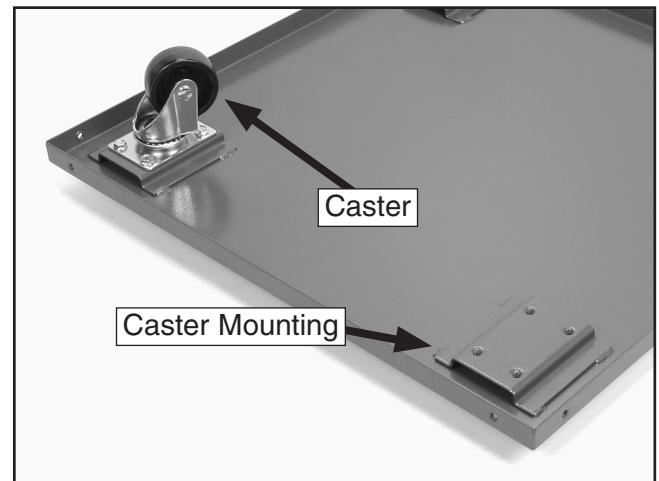

Figure 6. Caster mounted on base.
2. Attach the casters with the (16) $\frac{5}{16}$ "-18 x $\frac{1}{2}$ " flange bolts (see **Figure 6**).